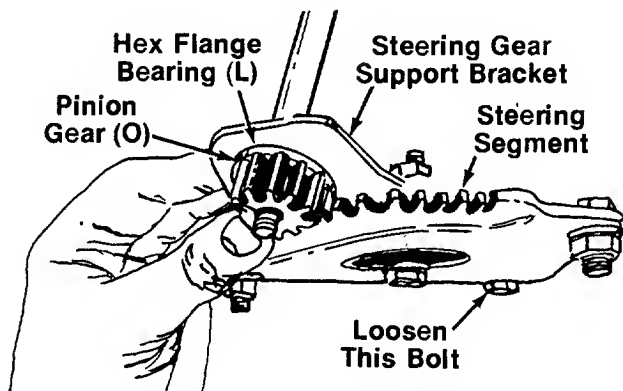
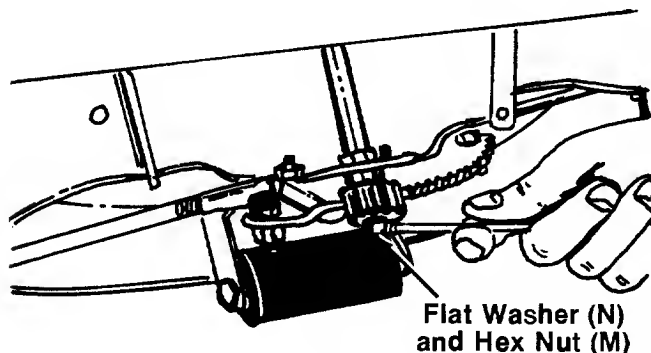

FIGURE 8.
FIGURE 9.
8. **Style A**—Insert the **steering shaft** with assembled parts through the **steering housing cover**. The lower end of the shaft should extend through the hole in the front end of the **steering gear support bracket** (Ref. No. 12 on page 26). See figure 8.
10. Place **hex flange bearing (L)**, flat side down, over the end of the **steering shaft**, and seat it into the **steering gear support bracket**. See figure 8.
11. Position **pinion gear (O)** over splined collar on **steering shaft**. Then place **flat washer (N)** ($\frac{5}{8}$ " diameter) on shaft and secure with **hex nut (M)** ($\frac{5}{16}$ " I.D.). Do not tighten at this time.
13. Now tighten the hex nut (M) which secures the pinion gear. See figure 9.